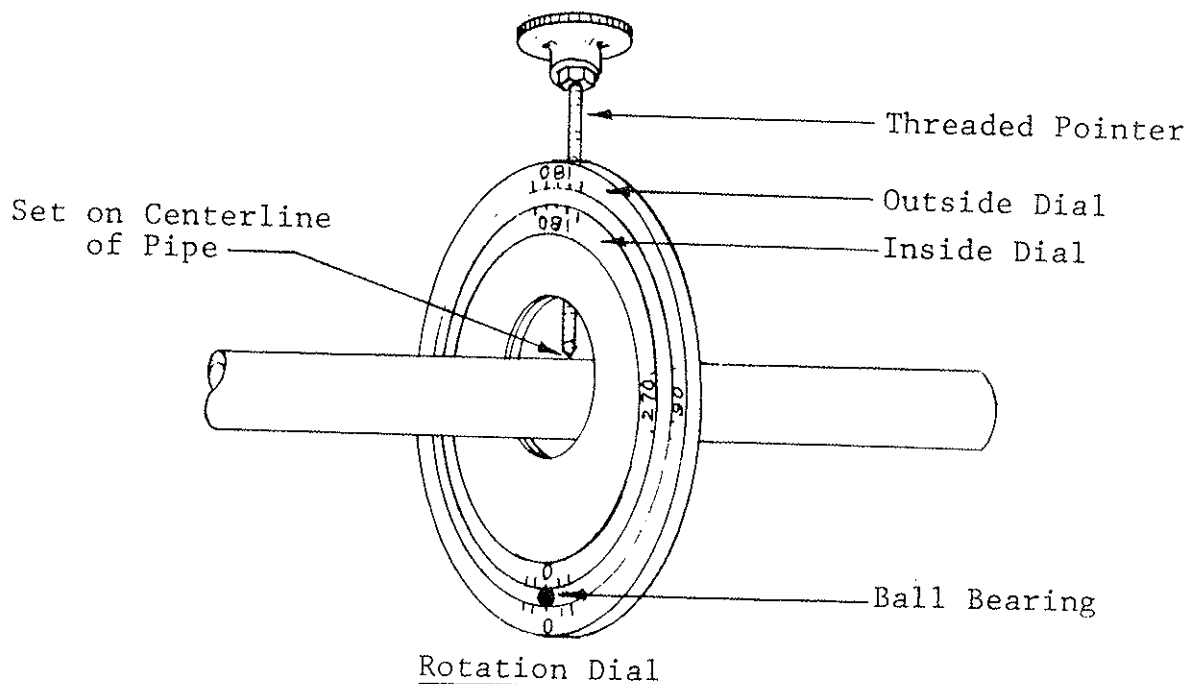

Figure 1
8. Slide the rotational dial over the right end of the pipe and move it down to a position approximately 18 INCHES PAST THE LAST BEND MARK. To clamp the dial on the pipe, HOLD UP ON THE DIAL, SET THE BALL ON ZERO (using the outside scale) and tighten the threaded pointer (See Figure 1). The dial will be left in this position until the pipe is ready to be cut off.